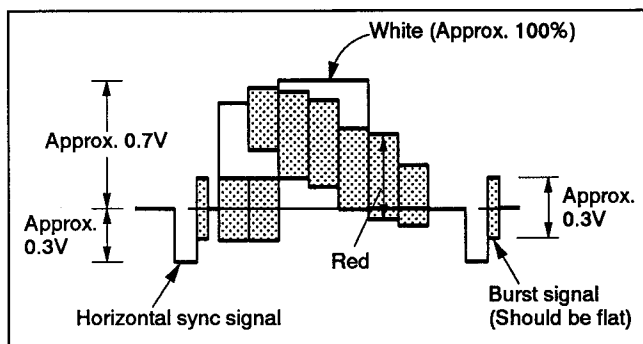

Fig. 7-3-2. Color Bar Signal of the Pattern Generator
As the video signal obtained from the pattern generator is used as an adjustment signal during electric adjustments, ensure that this video input signal is within the specification. Connect the oscilloscope to pin ⑥ of CN400 on the VA-88 board, and check that the amplitude of the sync signal of the video signal is approximately 0.3V, the amplitude of the video section is approximately 0.7V, the amplitude of the burst signal is approximately 0.3V and flat, and that the level ratio of the burst signal and the [red] signal is 0.30: 0.66. The video signal (color bar) used for electric adjustments is shown in Fig. 7-3-2.